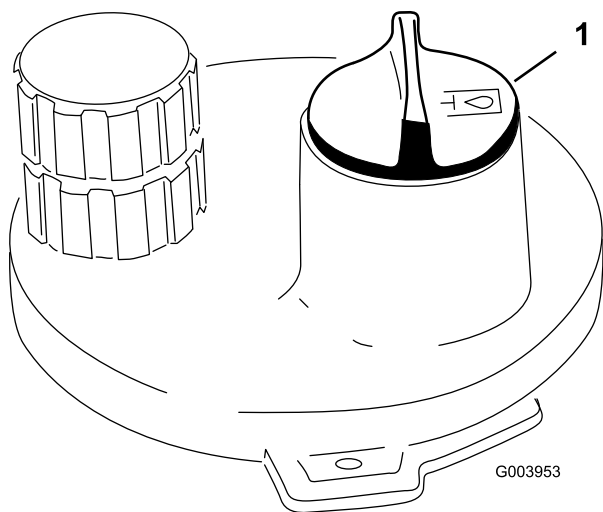

Figure 38
3. Clean area around filler neck and cap of hydraulic tank (Figure 38). Remove cap from filler neck.